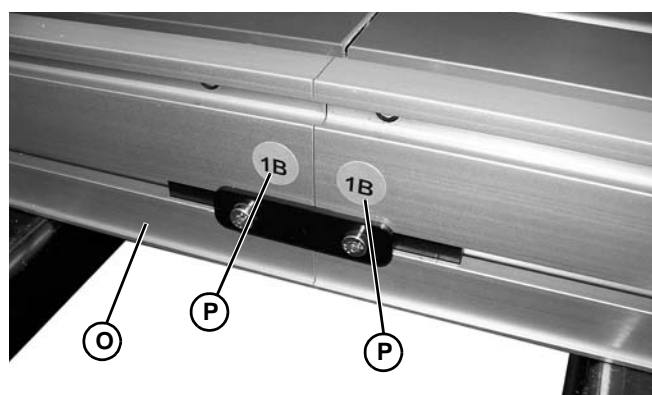

Figure 4
1. Locate and arrange conveyor sections by section labels (Figure 4, item P).